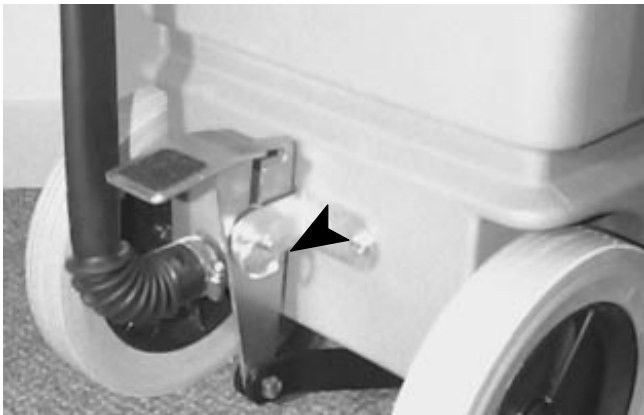

FIG. 4
9. Slide pedal between two mounting arms on back of machine. Align and insert clevis pin through arms and slot in pedal, secure with cotter pin (*Figure 4*).